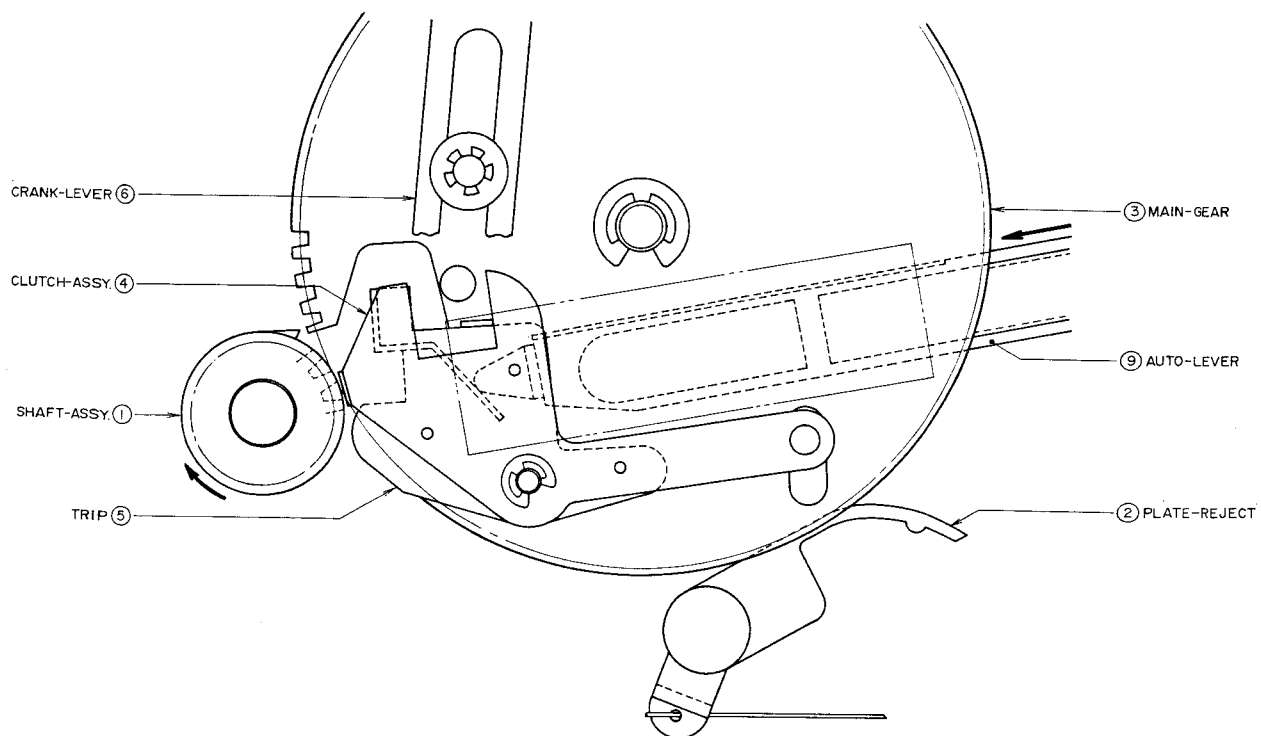
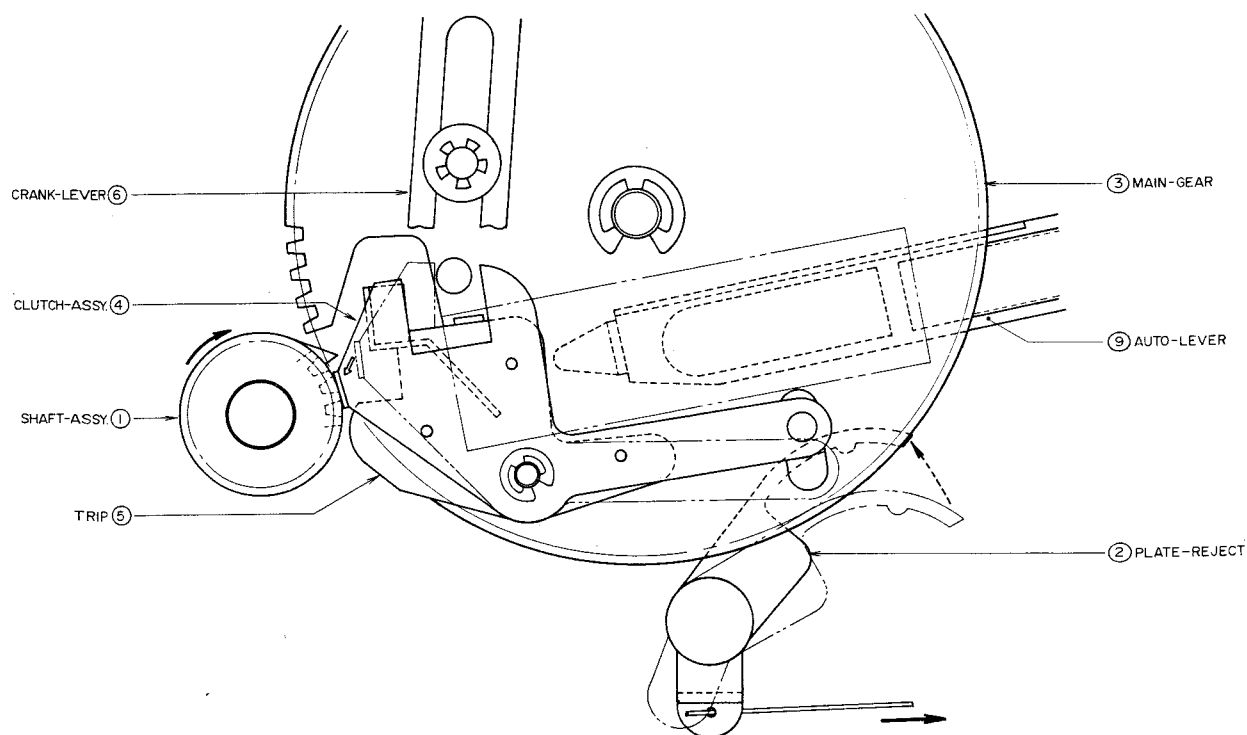

Fig. 5 PICK UP ARM STYLUS TIP IN VICINITY OF 126°
Fig. 13 FORCE CUT
In due time the pick up stylus finishes sound groove tracing and about the time it enters the lead-out groove, the tip of AUTO-LEVER (9) begins to push the skirt part of TRIP (5) and the CLUTCH ASSY (4) which rides lightly on this part is pushed out toward the TABLE SHAFT ASSY (1) (shown in Fig. 5, when the pick up stylus is at a about 126 mm position from the turntable).
When listening to a record and you wish to stop in the middle of a performance, or when playing a record not according to specifications, and the stylus tip has advanced to the last groove, simply bring the cut lever forward. This moves PLATE REJECT 2 which pushes PLATE JOINT (13), then POLE REJECT (15) and ultimately CLUTCH ASSY (4) is pushed as shown in Fig. 13. ($\leftarrow$ mark). Then return operation commences and the power source is turned OFF (Refer to Item 1 above and Fig. 5).